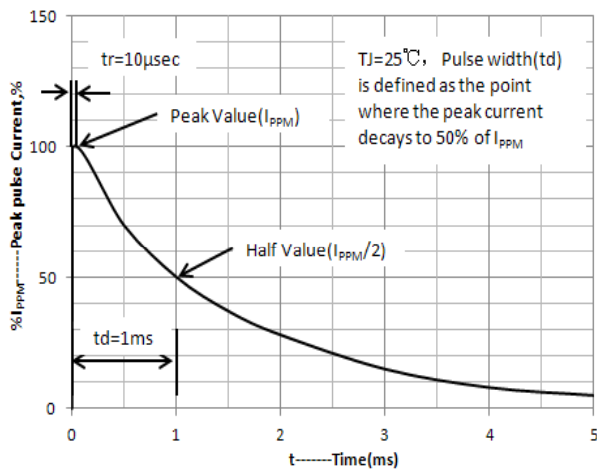
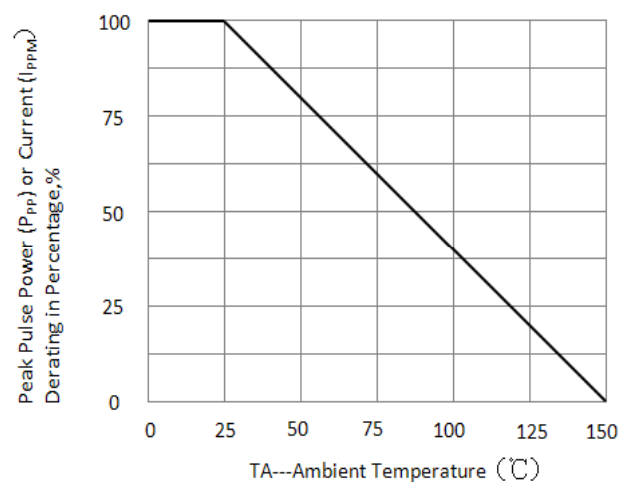

Figure 3. Pulse Waveform
Figure 4. Peak Pulse Power Derating Curve
- 1) Non-repetitive current, per fig.3 and derated above T_A=25°C per fig.4.